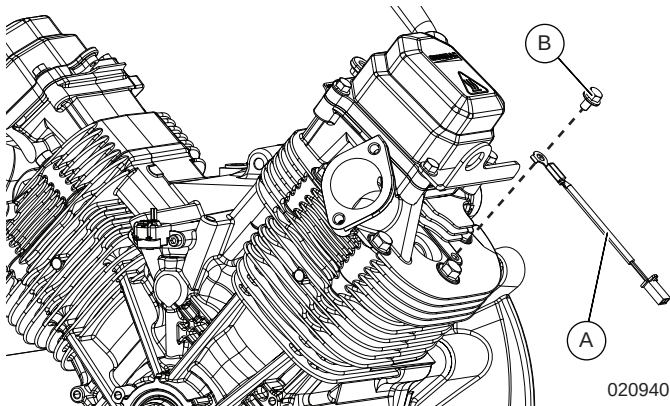

Figure 12-12. Install Head Temperature Sensor
1. See Figure 12-12. Install head temperature sensor (A) with fastener (B).